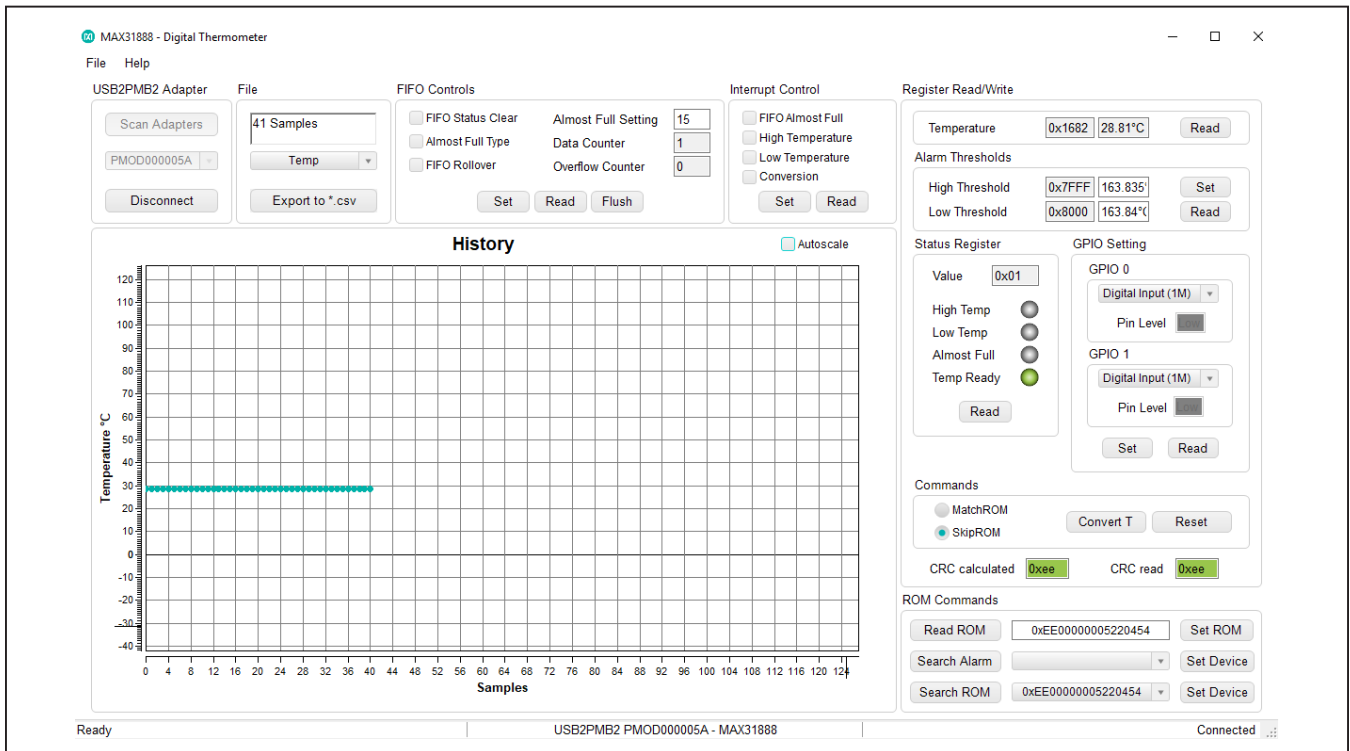

Figure 2. Measuring Temperature on the MAX31888
- 8) Click the **Read** button. Figure 2 shows the measured temperature.